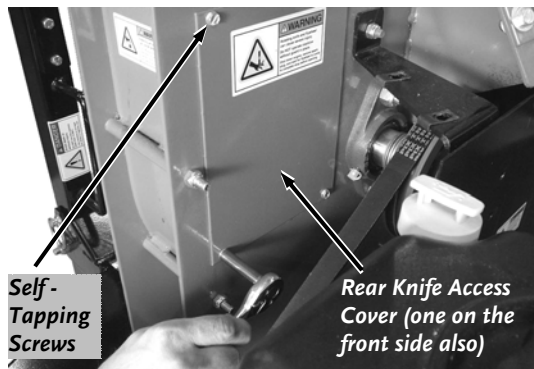

Figure 36
2. Using a 5/16" Wrench, remove the Self-Tapping Screws and remove both Knife Access Covers from the front and back of the Chipper Assembly (**Figure 36**).